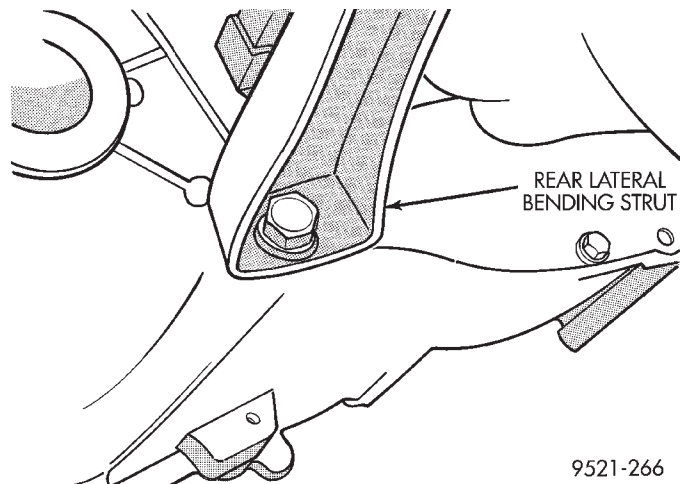
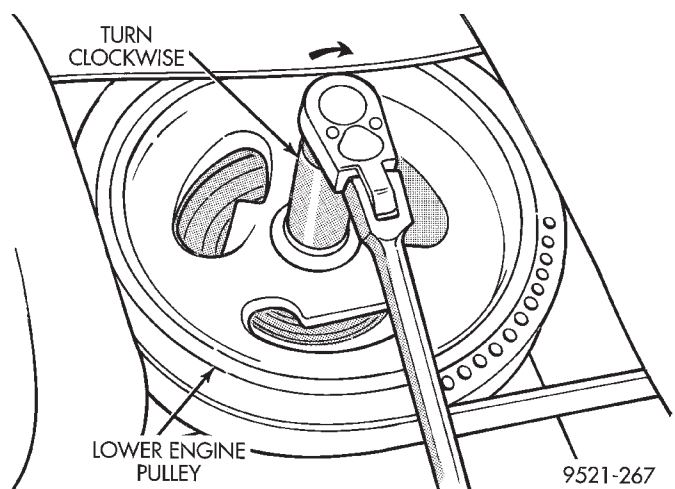
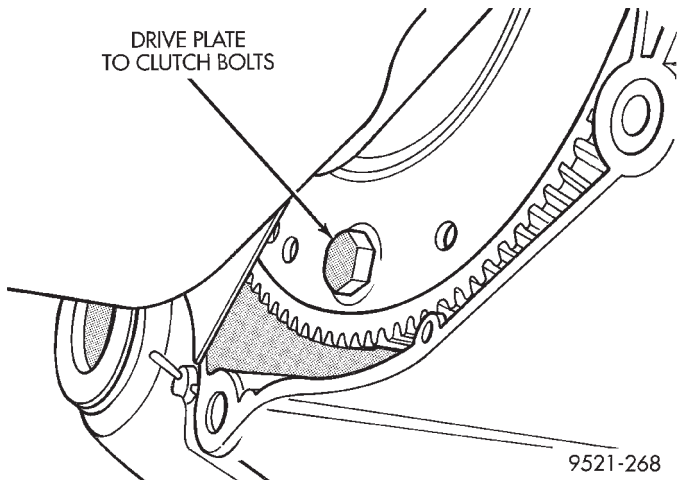

Fig. 35 Bracket Removal
Fig. 36 Rotate Engine Clockwise
Fig. 37 Driveplate to Modular Clutch Bolts
(25) Remove transaxle to rear lateral bending strut from engine and transaxle (Fig. 35).
(26) Remove lower dust shield screw.
(27) Support transaxle with a transmission jack.
(28) Rotate engine clockwise to gain access to driveplate clutch bolts (Fig. 36). Remove driveplate clutch bolts (Fig. 37).